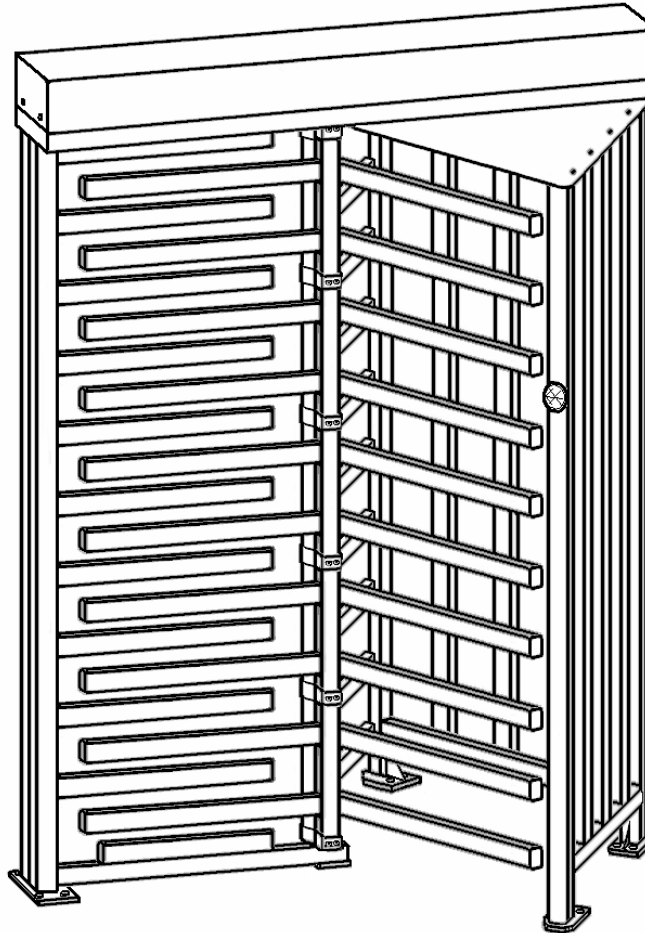

Fig. 6 Reset state of the barrier wings in the Lock-Chamber access mode
- **“Lock-Chamber” rotor orientation:** The passageway in the reset state is blocked by two barrier wings (Fig. 6 and 12) which together with the guide barrier sections form a “lock-chamber”. This access mode allows setting of Lock-Chamber operating modes (Table 2).